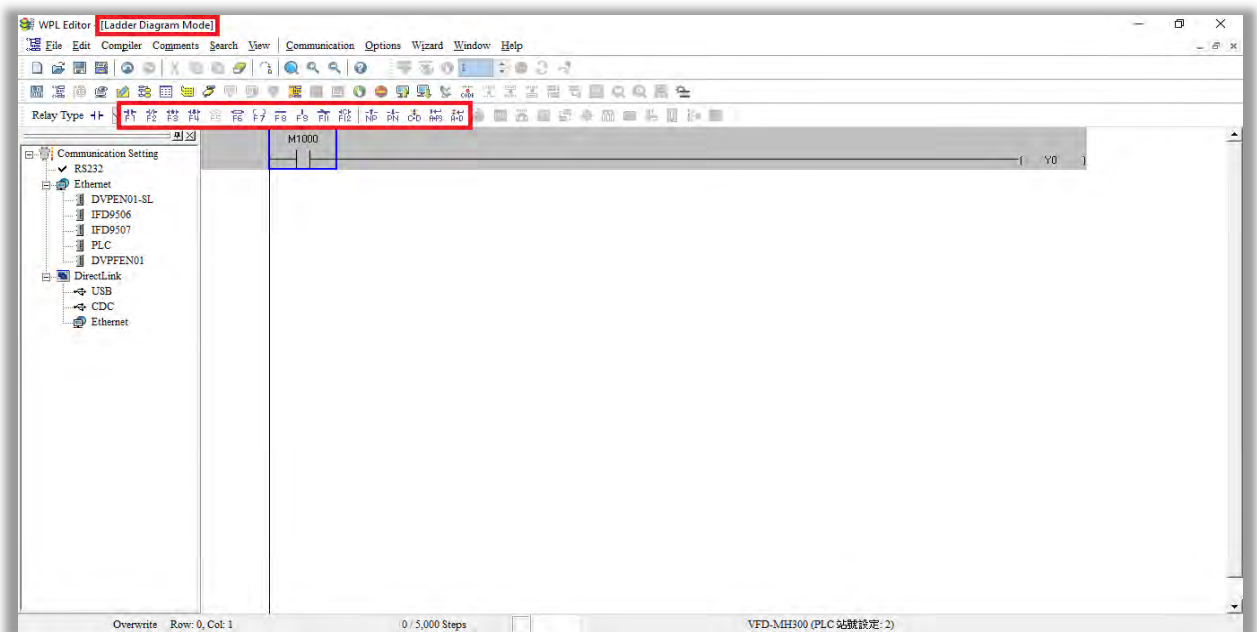

Figure 16-9
**NOTE:** In ladder diagram mode, you can perform program editing using the buttons on the function icon row (see figure 16-9 below).